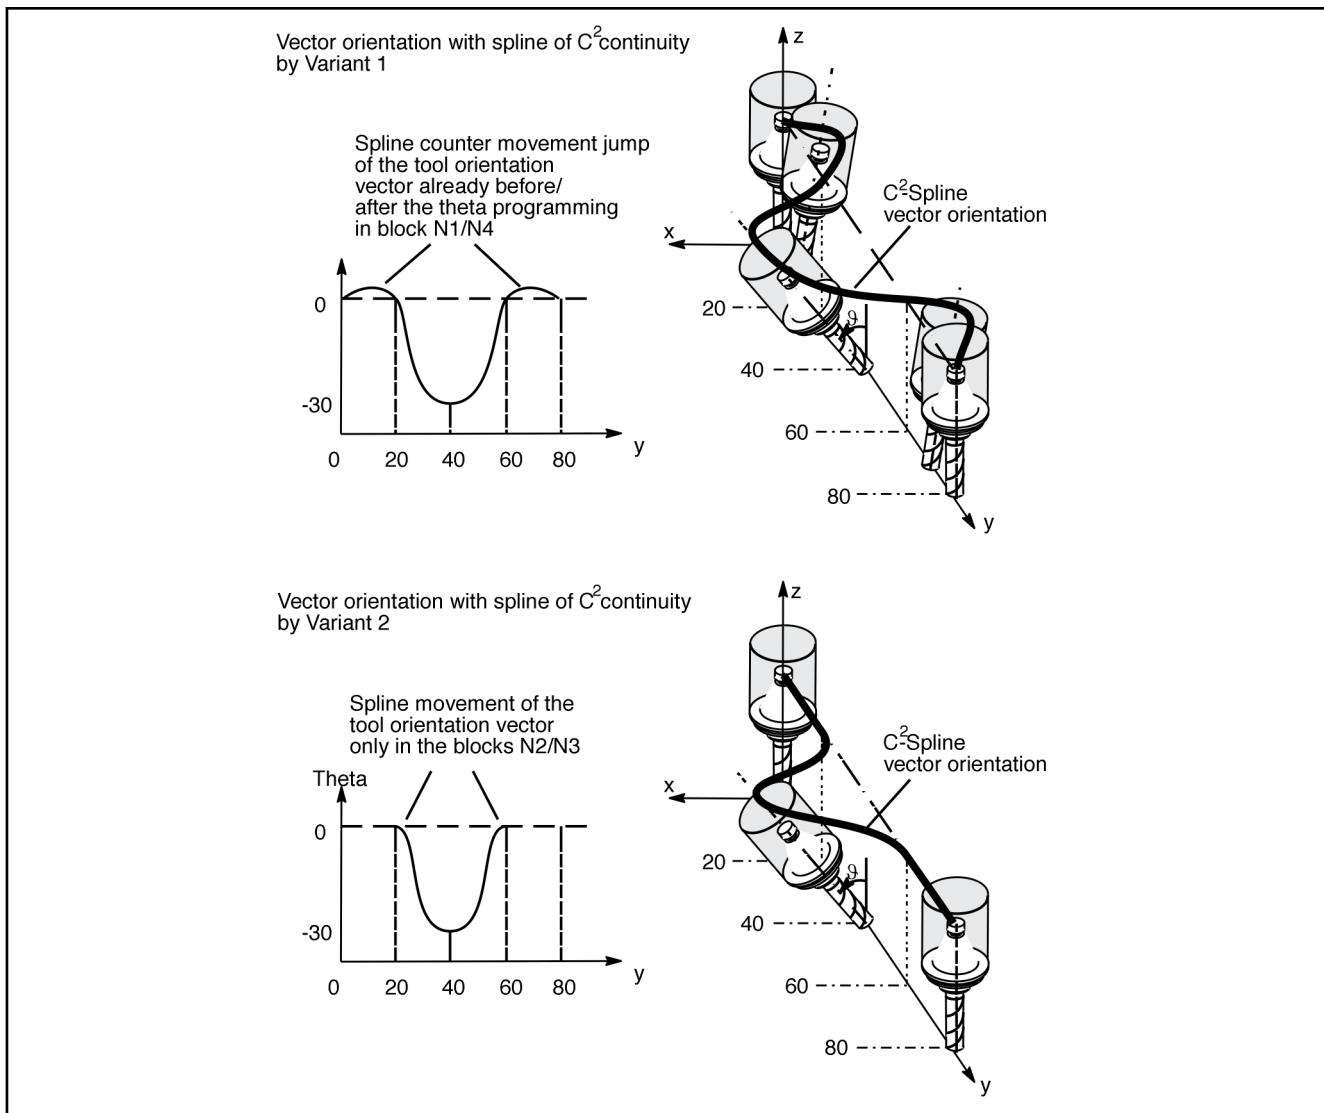

Fig. 9-18: Vector orientation - according to variant 1
- The $\vec{r}$ motion ($\vec{r} = (x, y, z)$) is independent from the $\vec{\rho}$ motion. A $\vec{\rho}$ motion only takes place in blocks with a starting orientation unequal to the end orientation (see fig. 9-18 "Vector orientation - according to variant 1" on page 134).